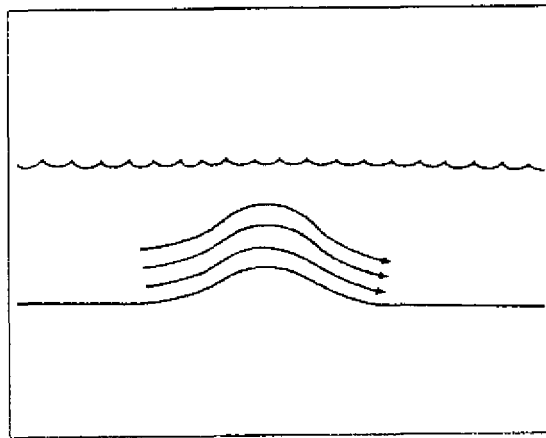

Figure 3:2
- (1) depth,
- (2) speed; and
- (3) volume.
- c. **Water Depth** - In a simple case water hits the obstruction and is forced upwards, if there is considerable depth or little flow, the effect is ironed out between the obstruction and the surface. (see Fig 3:2). The obstruction should offer little hazard to a boat.